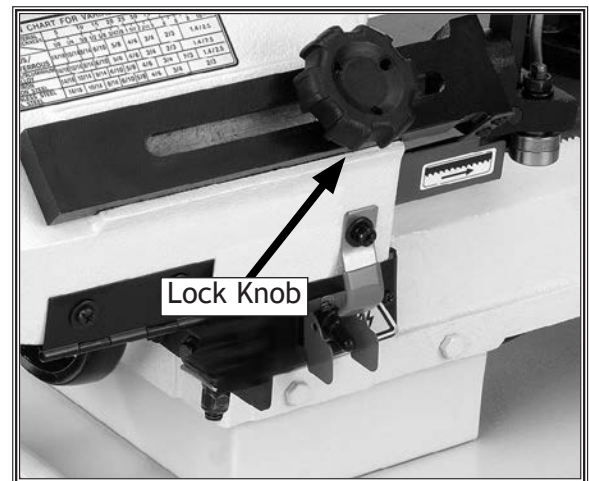

Figure 35. Blade guide position lock knob.
8. Tighten the jam nuts and slide the blade guide close to the workpiece so the blade is supported and will not twist during the cut (see **Figure 35**).